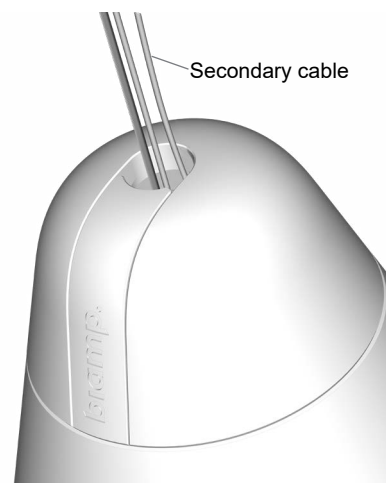

Figure 10.
12. Rotate the end cap so that the secondary cable does not press against the cable cover. There should be enough slack in the secondary cable that it doesn't rub against either the end cap or cable cover (Figure 10).